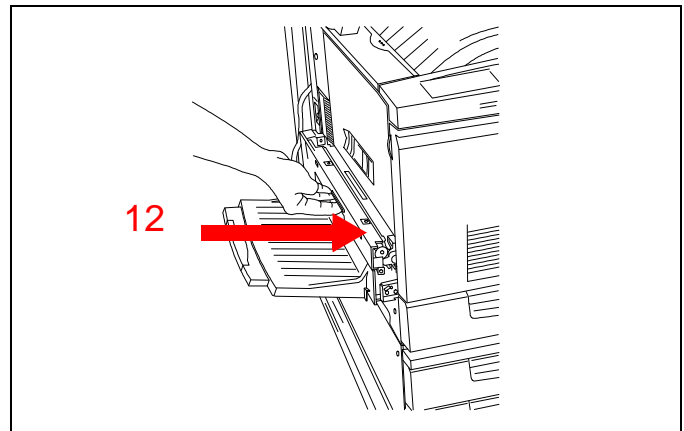

Figure 38
12. See Figure 38. Close the lower left side unit.